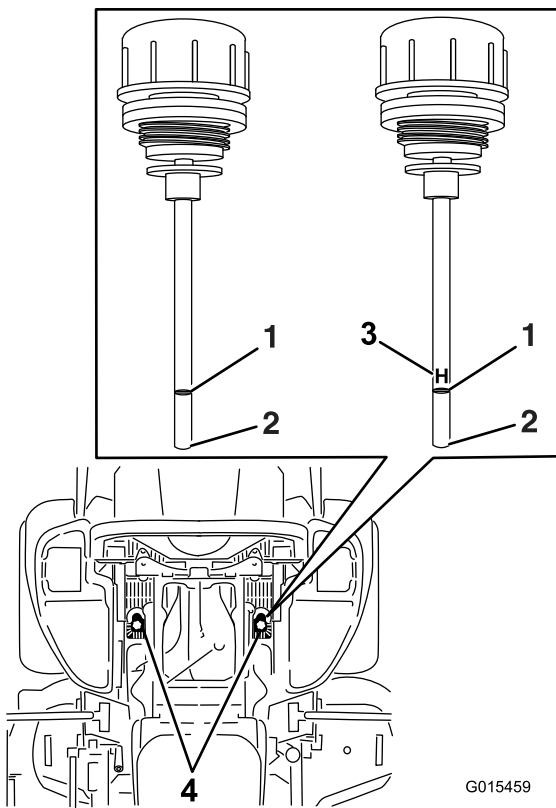

Figure 87
6. Clean the area around the dipsticks of hydraulic system reservoirs (Figure 87).
7. Remove 1 dipstick from the hydraulic reservoir (Figure 87).
9. Remove the dipstick and look at the end (Figure 87). If the fluid level is at the ADD mark, slowly pour only enough fluid into the hydraulic reservoir to raise the level to the FULL or H line.